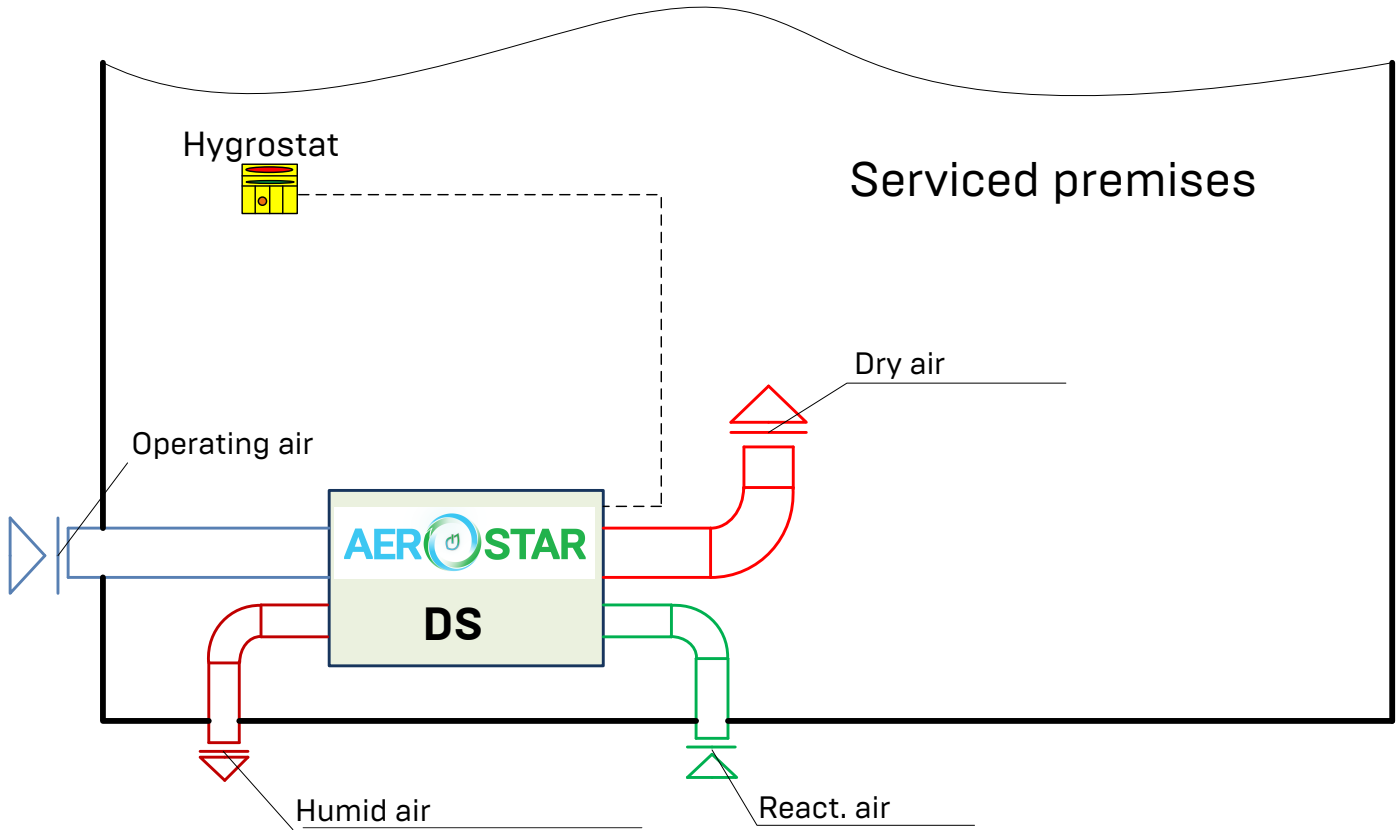
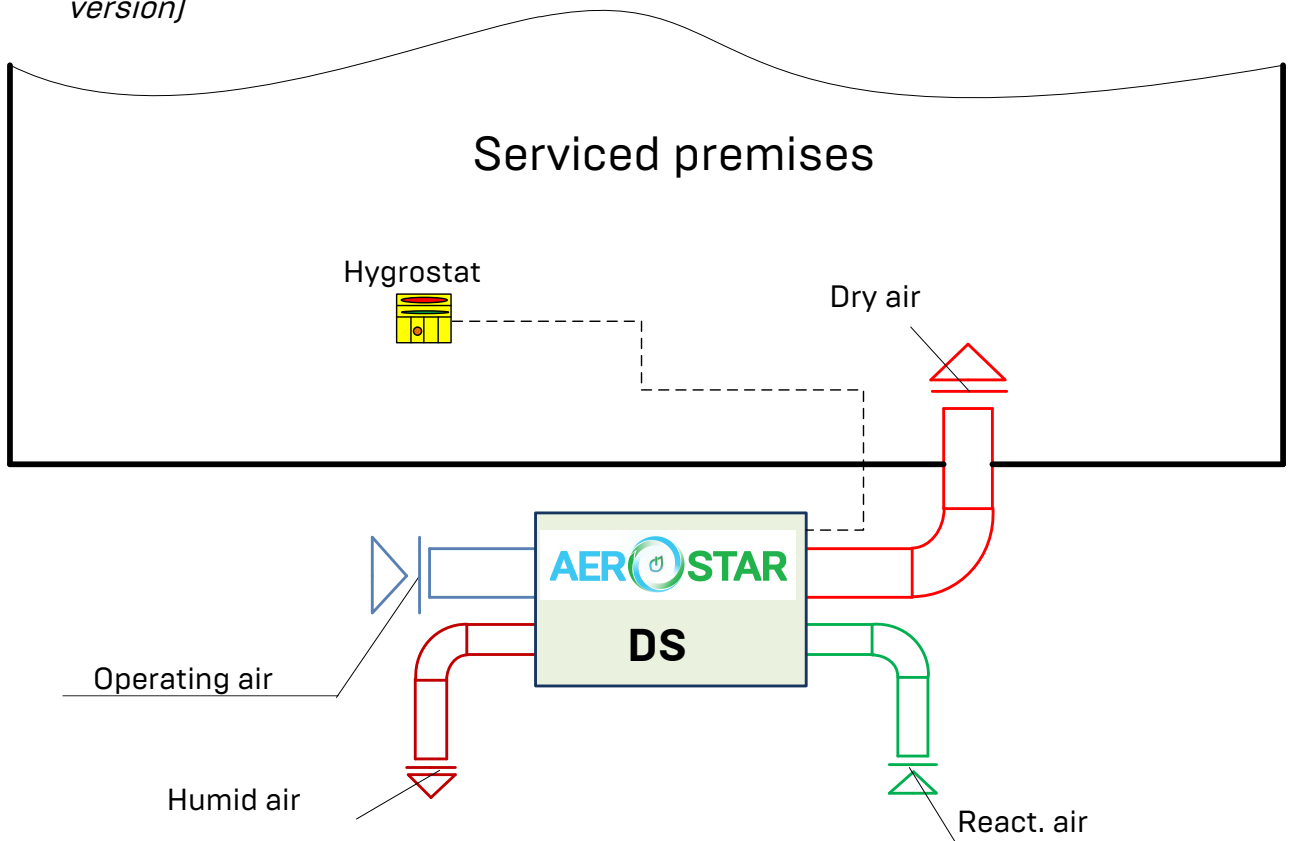

Figure 4.3 - Operation of the dehumidifier according to the "open" scheme (internal version)
Figure 4.4 - Operation of the dehumidifier according to the "open" scheme (outdoor version)
- ✓ operation of the dehumidifier according to the "open" scheme (internal version) - see figure 4.3;
- ✓ operation of the dehumidifier according to the "open" scheme (outdoor version) - see figure 4.4;
Figure 4.3 shows the internal installation of the dehumidifier when operating according to the "open" scheme (in fresh air supply mode). That is, outside dried air is blown into the room. Reactivation air is taken in from outside and thrown out there. This method is used when it is impossible to dry the internal air directly due to the presence of particles and substances in it that can damage individual elements of the dehumidifier.
Figure 4.4 - outdoor installation of the dehumidifier when operating in fresh air supply mode. It differs from the third option (see Figure 4.3) only in the place where the dehumidifier is installed.